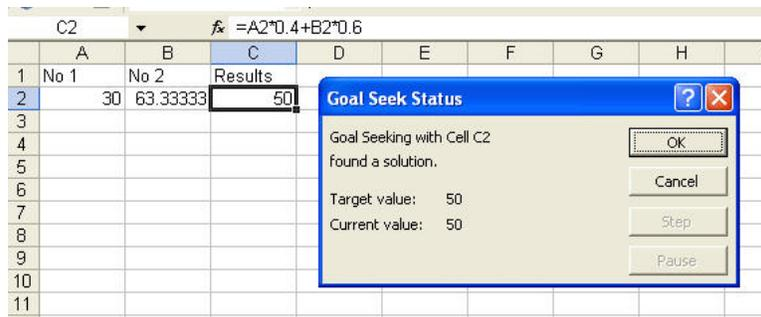

Figure 1.18. Obtaining results with the use of Goal Seek option.
- Click **OK**. The result (63.33) will be shown in the cell selected as **By changing cell** (cell B2 for this example) (Figure 1.18).